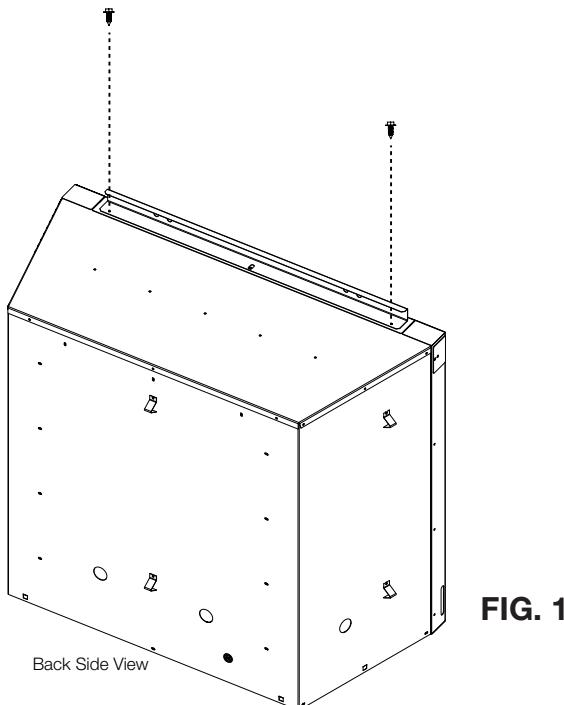

FIG. 1
2. Remove the 4 screws (FIG. 1).
3. Place the nailing strip in place and secure with the 2 previously removed screws (FIG. 1).